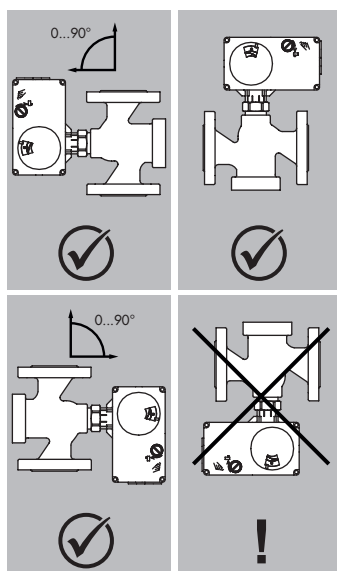

Fig. 9: Mounting position
- ➔ The control valve can be installed in the pipeline in any desired position. However, a suspended mounting position of the actuator is not permissible (see Fig. 9).